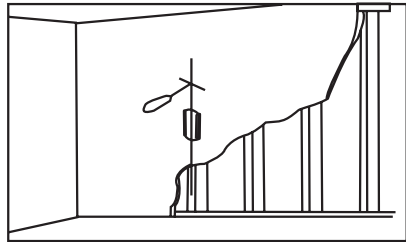

Fig 2b
### Wooden wall (Fig 2b):
Using a awl or nail to make where the nails are located, as shown as fig.2b. Distance between two nails for fixing wall mount must not less than 12". Pre-drill these holes with a 5mm drill bit to at least 80mm in deep hole. Please make sure these holes are level and located at center. Use wall mount as a template to mark the location of other three holes and drill the same holes. Fix the wall mount to the wall with 4 long bolts(O) and washers(Q).